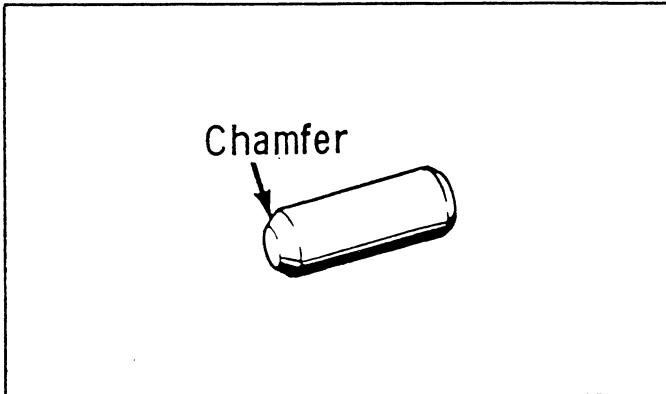

Fig. 40 Dowel Pin Chamfer
1. Grind a chamfer on one end of each dowel pin (Fig. 40).